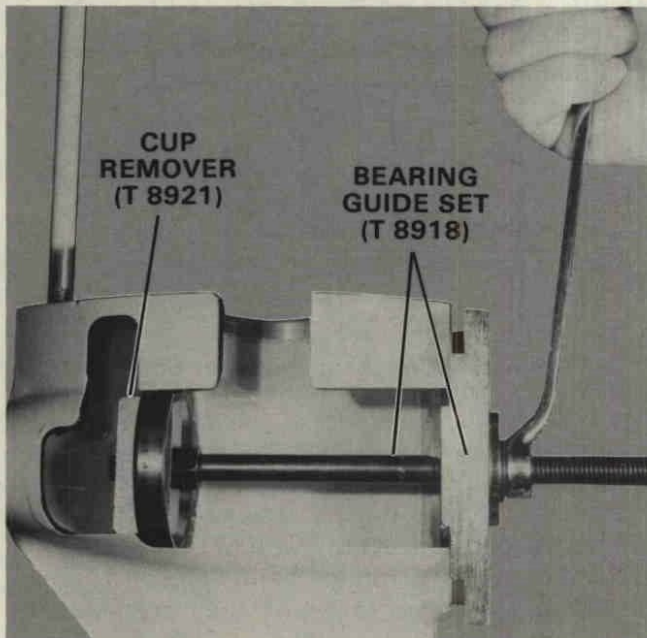

Figure 61. Removing Bearing Cup from Gear Housing.
- A. Use cup remover (Special Tool No. T 8921) and bearing guide set (Special Tool No. T 8918) to remove bearing cup from lower gear housing. Figure 61.